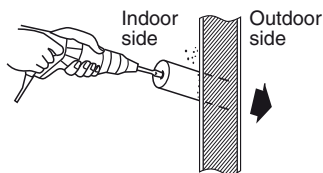

Fig. 3-16
- (8) If the tubing and wiring are to go towards the rear of the unit, make holes in the wall. (Fig. 3-16)